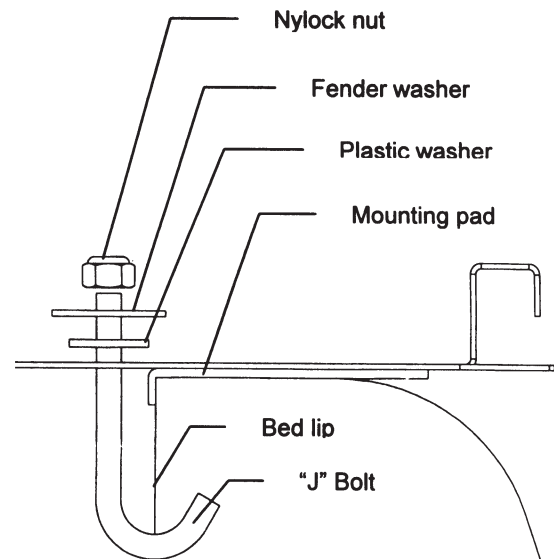

Fig. 2
8. Fasten the support legs to the toolbox and install the toolbox onto the truck bed. Fasten the support leg feet to the floor and install the (2) "J" bolts as shown in Figure 2.